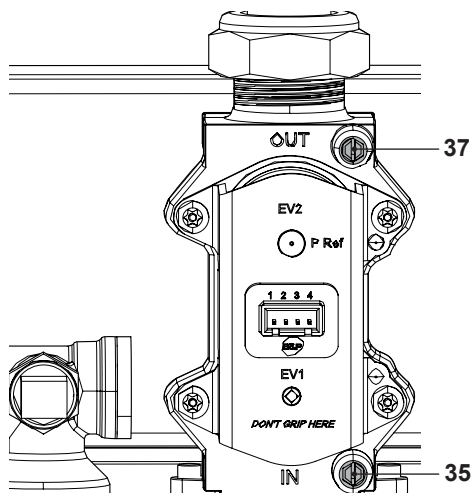

Fig. 7.14
- With the boiler switched on at full rate (maximum output power), check the supply pressure by using the 35 point in Fig. 7.14 and compare the value with that reported on the Gas supply pressure table (minimum inlet pressure) in section "Technical data ANTARES 25C (M300V.2025 SM)" on pag. 38, "Technical data ANTARES 30C (M300V.2530 SM)" on pag. 42 and "Technical data ANTARES 35C (M300V.3035 SM)" on pag. 46.
- Ensure the test nipple 35 in Fig. 7.14 is firmly closed.